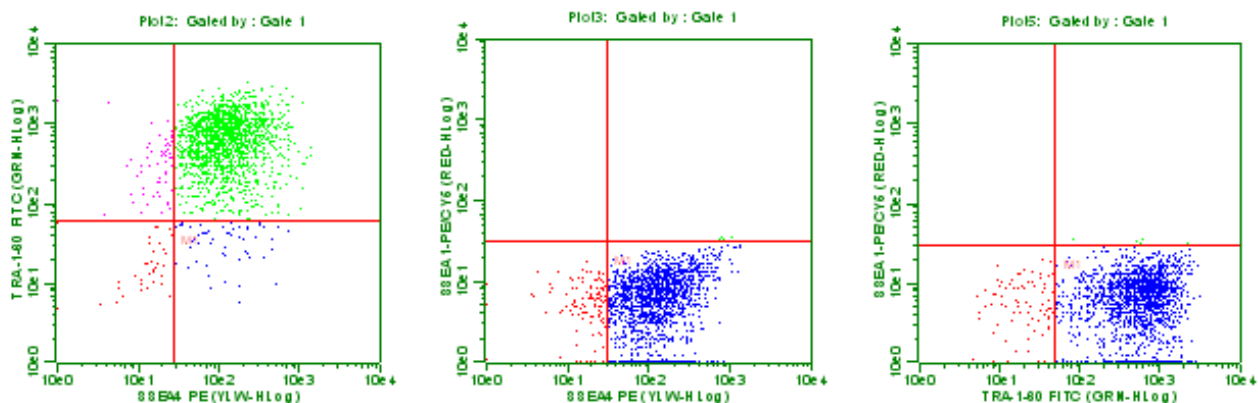

Figure 1. Representative data of H1 human embryonic stem cells stained with TRA-1-60-FITC, SSEA4-PE and SSEA1-PE/CY5.
25. Once cells are acquiring, click on compensation window 1 and adjust compensation, so that you get the desired result, i.e. something very similar to the data presented in Figure 1 of this manual.